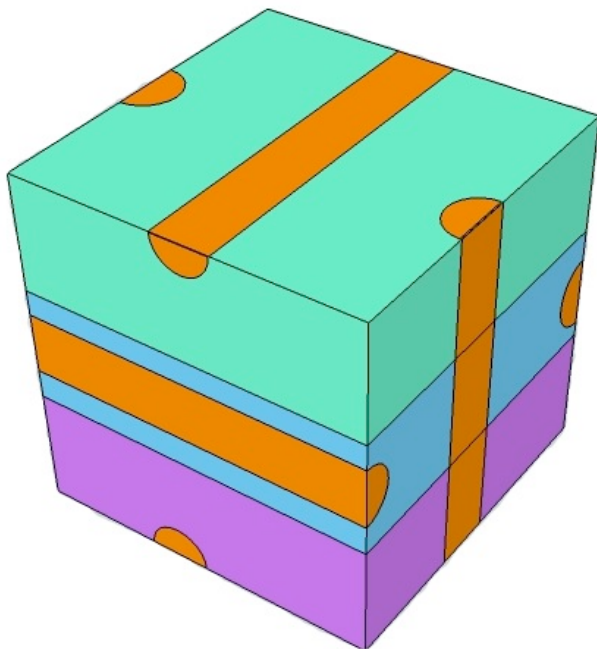
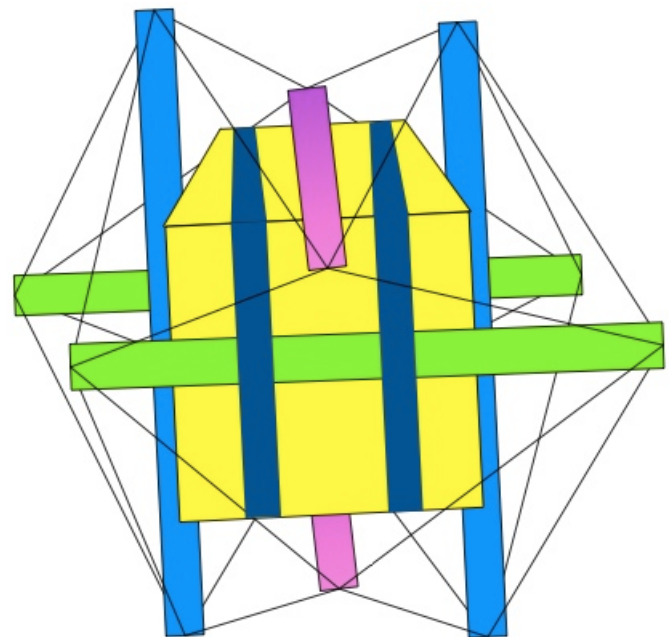

Figure 1
Figure 2
- Figure 1 shows a solid cube modified to be used as a jig to help build the icosahedron. The icosahedron is built around this jig in the cube-shaped hole in the middle of the structure (see Figures 2 and 3). The cube must be removed after the icosahedron is constructed; one way to do that is shown in Figure 1: cut the cube into 3 slices. During tensegrity assembly, those 3 slices of the cube are held together with a pair of velcro straps. After assembly, the velcro straps are removed and the slices are removed one by one from the center of the structure.
- Figure 1 shows a semicircular groove cut into the center of each face of the cube. Those grooves can be cut with a circular router bit; the groove should have the same diameter as the round struts. During assembly of the tensegrity, the struts are laid in the grooves.
- The struts are secured to the jig with a pair of velcro straps. Figure 2 shows a pair of dark blue straps holding the two green struts to the cube. There are a total of six straps; each pair of straps secures two struts to the cube.